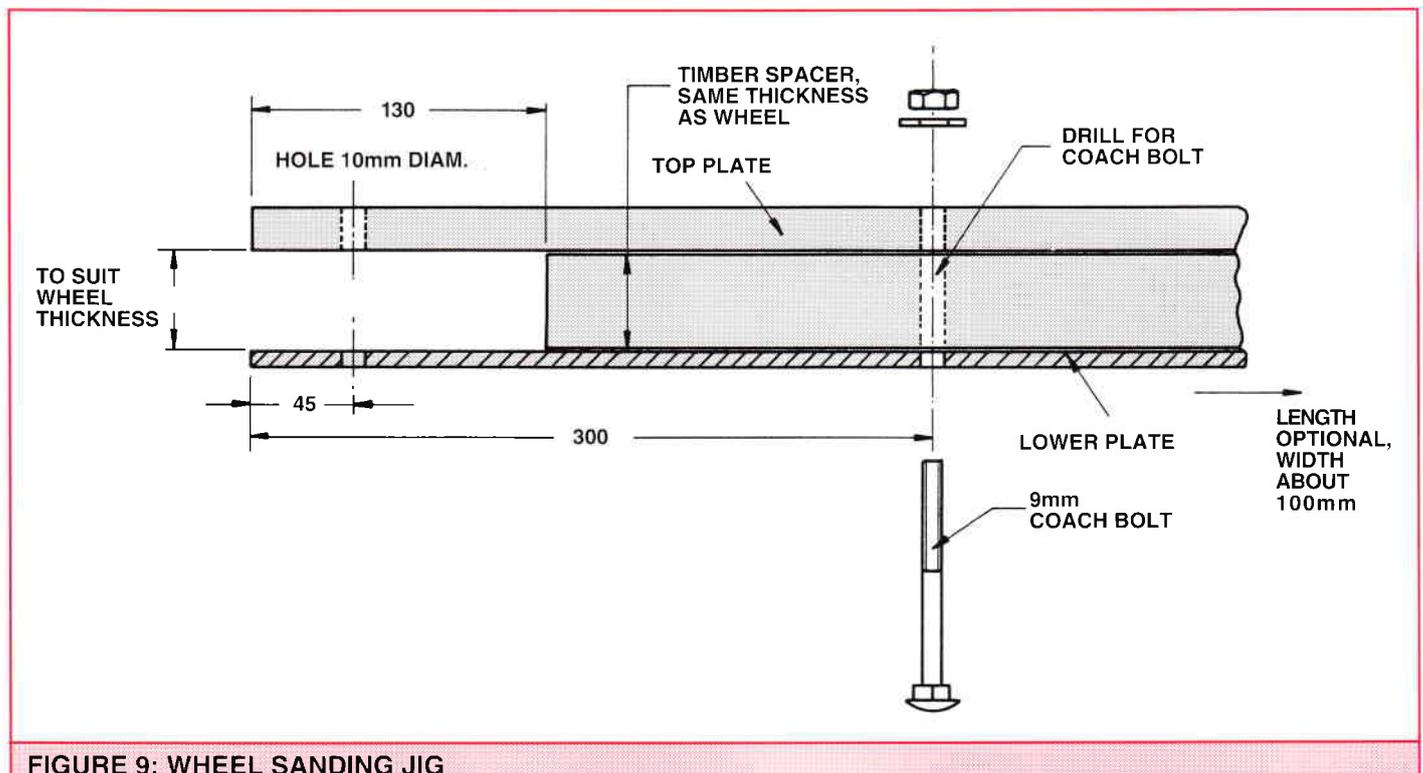

FIGURE 9: WHEEL SANDING JIG
About 600mm of 6mm diam. polythene rope for the bucket arm; 4 coach screws 3/8" (10mm) x 100mm long and 8 washers, for wheel spindles; (2) 30mm inside diameter spacing washers at the arm pivot; round-headed screws and washers to secure the latch bar; tow hook or ring if desired; rubber bump stop for bucket – we used a rubber "button" sold as a toilet seat bump rubber; one 3/8" x 4" (10 x 100mm) coach bolt, nut & washer for wheel sanding jig. See Figure 9.
12 Make up a wheel sanding jig to sand the wheels perfectly circular, as shown in **Figure 9**. It is best to make the lower “plate” of the jig from 6mm plywood.